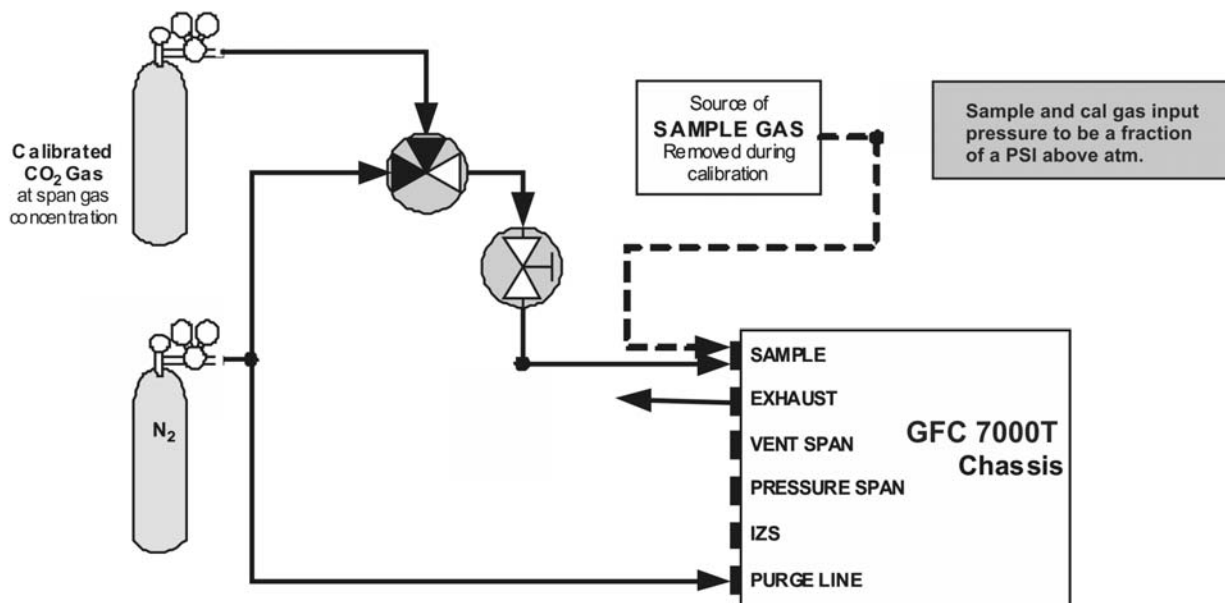

Figure 7-1: Pneumatic Connections—Basic Configuration—Using Bottled Span Gas
**STEP ONE:** Connect the sources of zero air and span gas as shown in Figures 7.1 or 7.2.